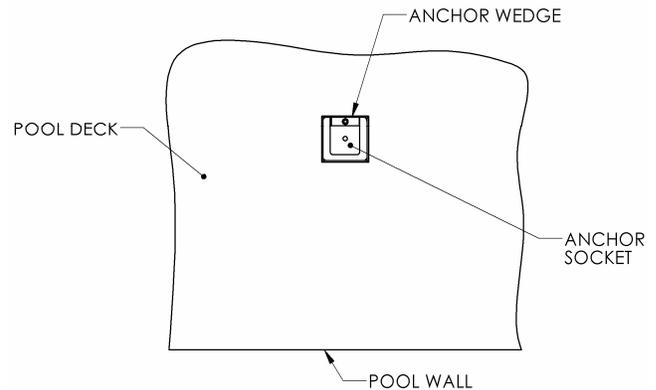

FIGURE 3
1. The wedge anchor should be installed in the orientation shown in **FIGURE 3**. As shown in **FIGURE 3**, the side of the anchor that contains the wedge should be oriented such that it is parallel to, and farthest away from, the pool wall.